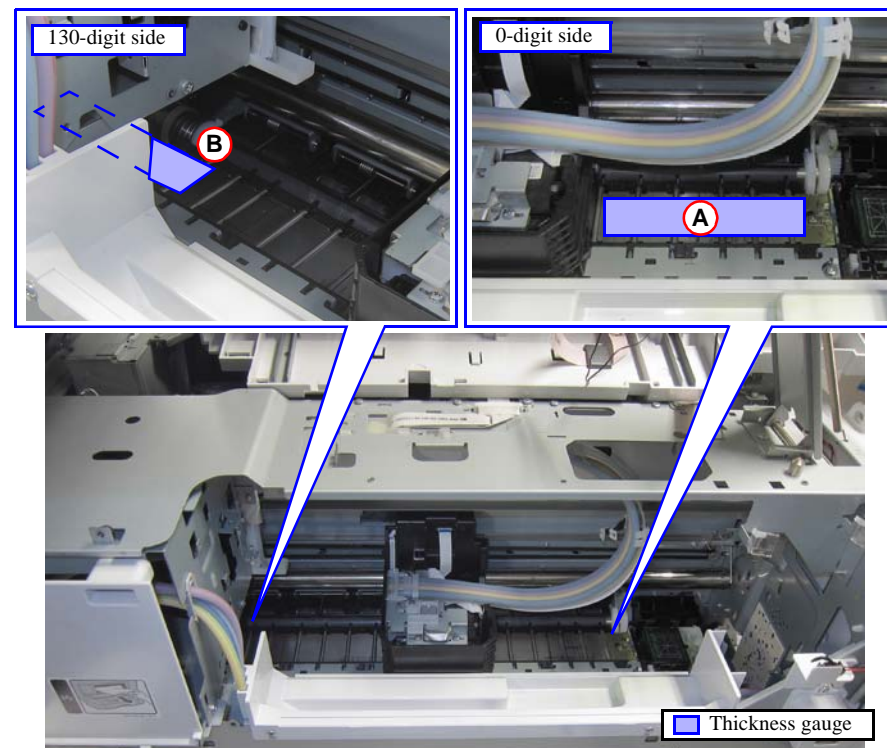

Figure 7-7. Placement of Thickness Gauge
2. Move the CR unit to the center of the printer, and place the 1.40 mm thickness gauge (1.32 mm thickness gauge + 0.08 mm Teflon tape) at position A shown in Figure 7-7.
4. Move the CR unit to the center part of the printer, and place the 1.31 mm thickness gauge (1.23 mm thickness gauge + 0.08 mm Teflon tape) at position A shown in **Figure 7-7**.
1. Move the CR unit to the center of the printer, and place the 1.41 mm thickness gauge (1.33 mm thickness gauge + 0.08 mm Teflon tape) at position B shown in **Figure 7-7**.